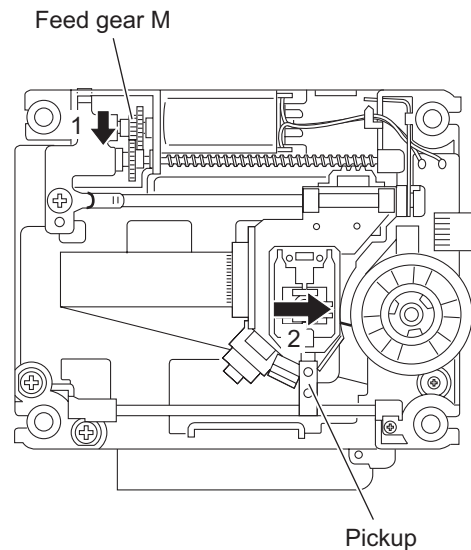

Fig.9
- (5) Turn the feed gear M in the direction of the arrow 1 to move the pickup in the direction of the arrow 2. (See Fig.9.)